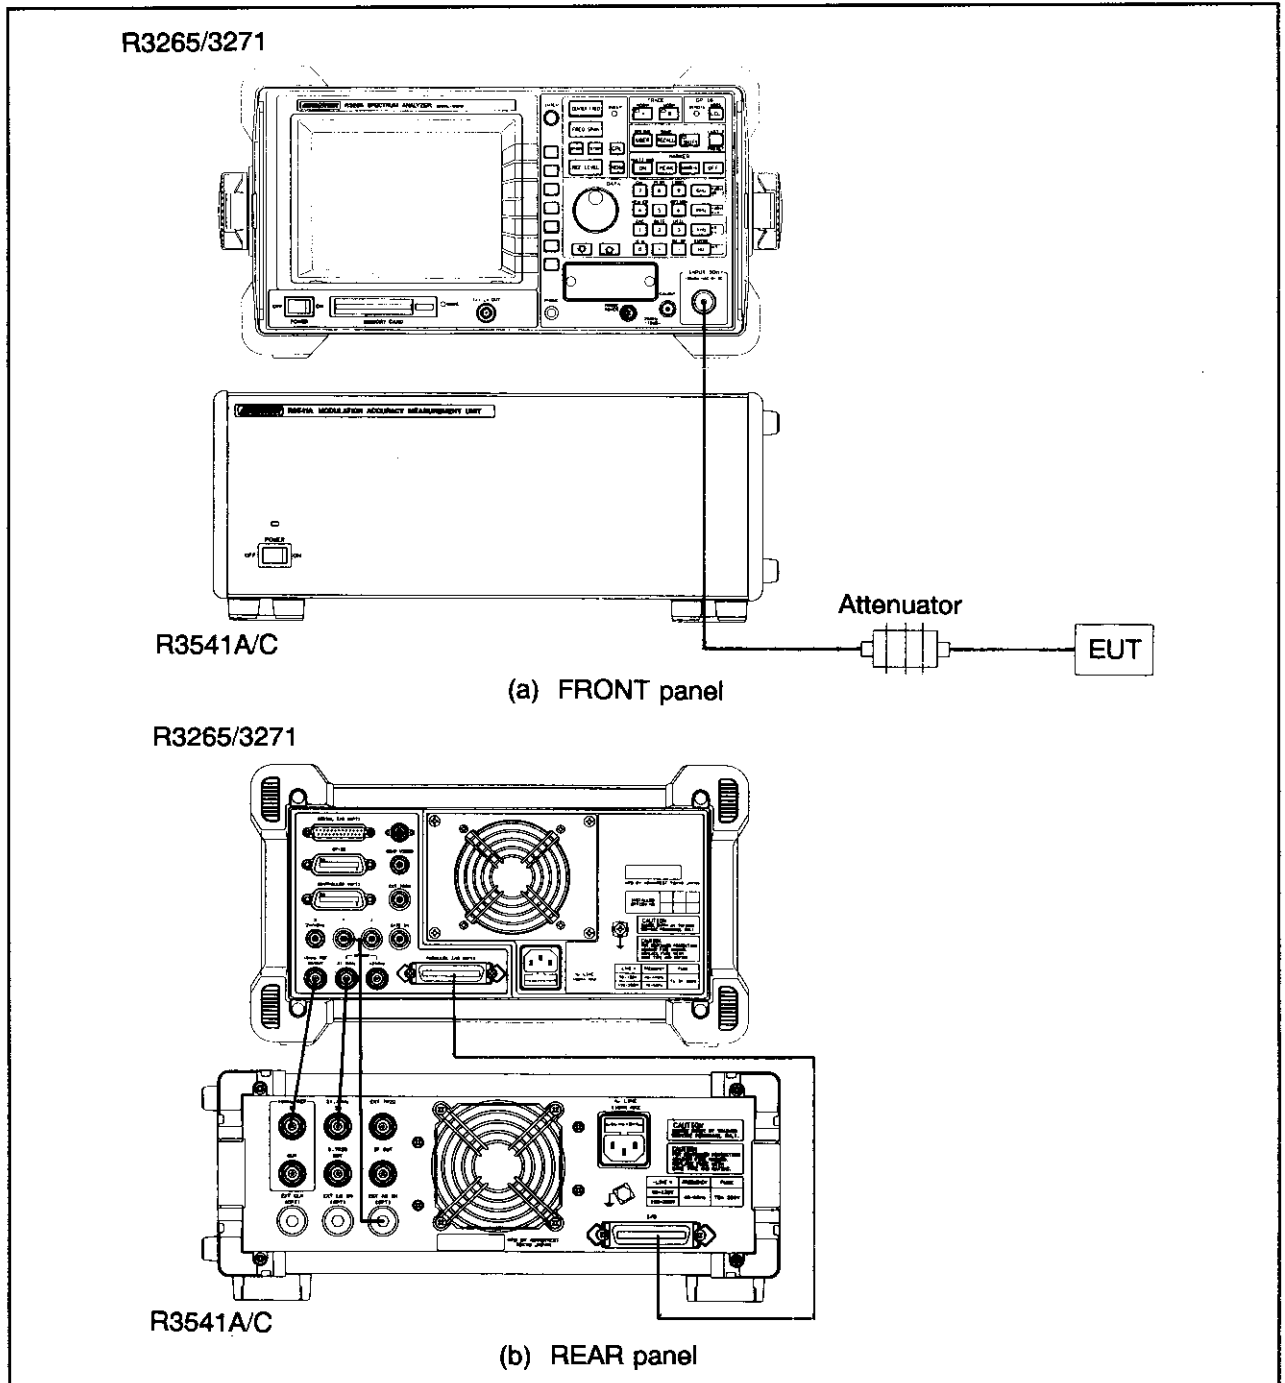

Figure 3-11 Connection of PDC/NADC Modulation Accuracy Measurement
- ① Connect the unit referring to Figure 3-11.
- ② Set the center frequency of the R3265/3271 to the signal frequency (carrier frequency) and the frequency span to the ZERO SPAN.